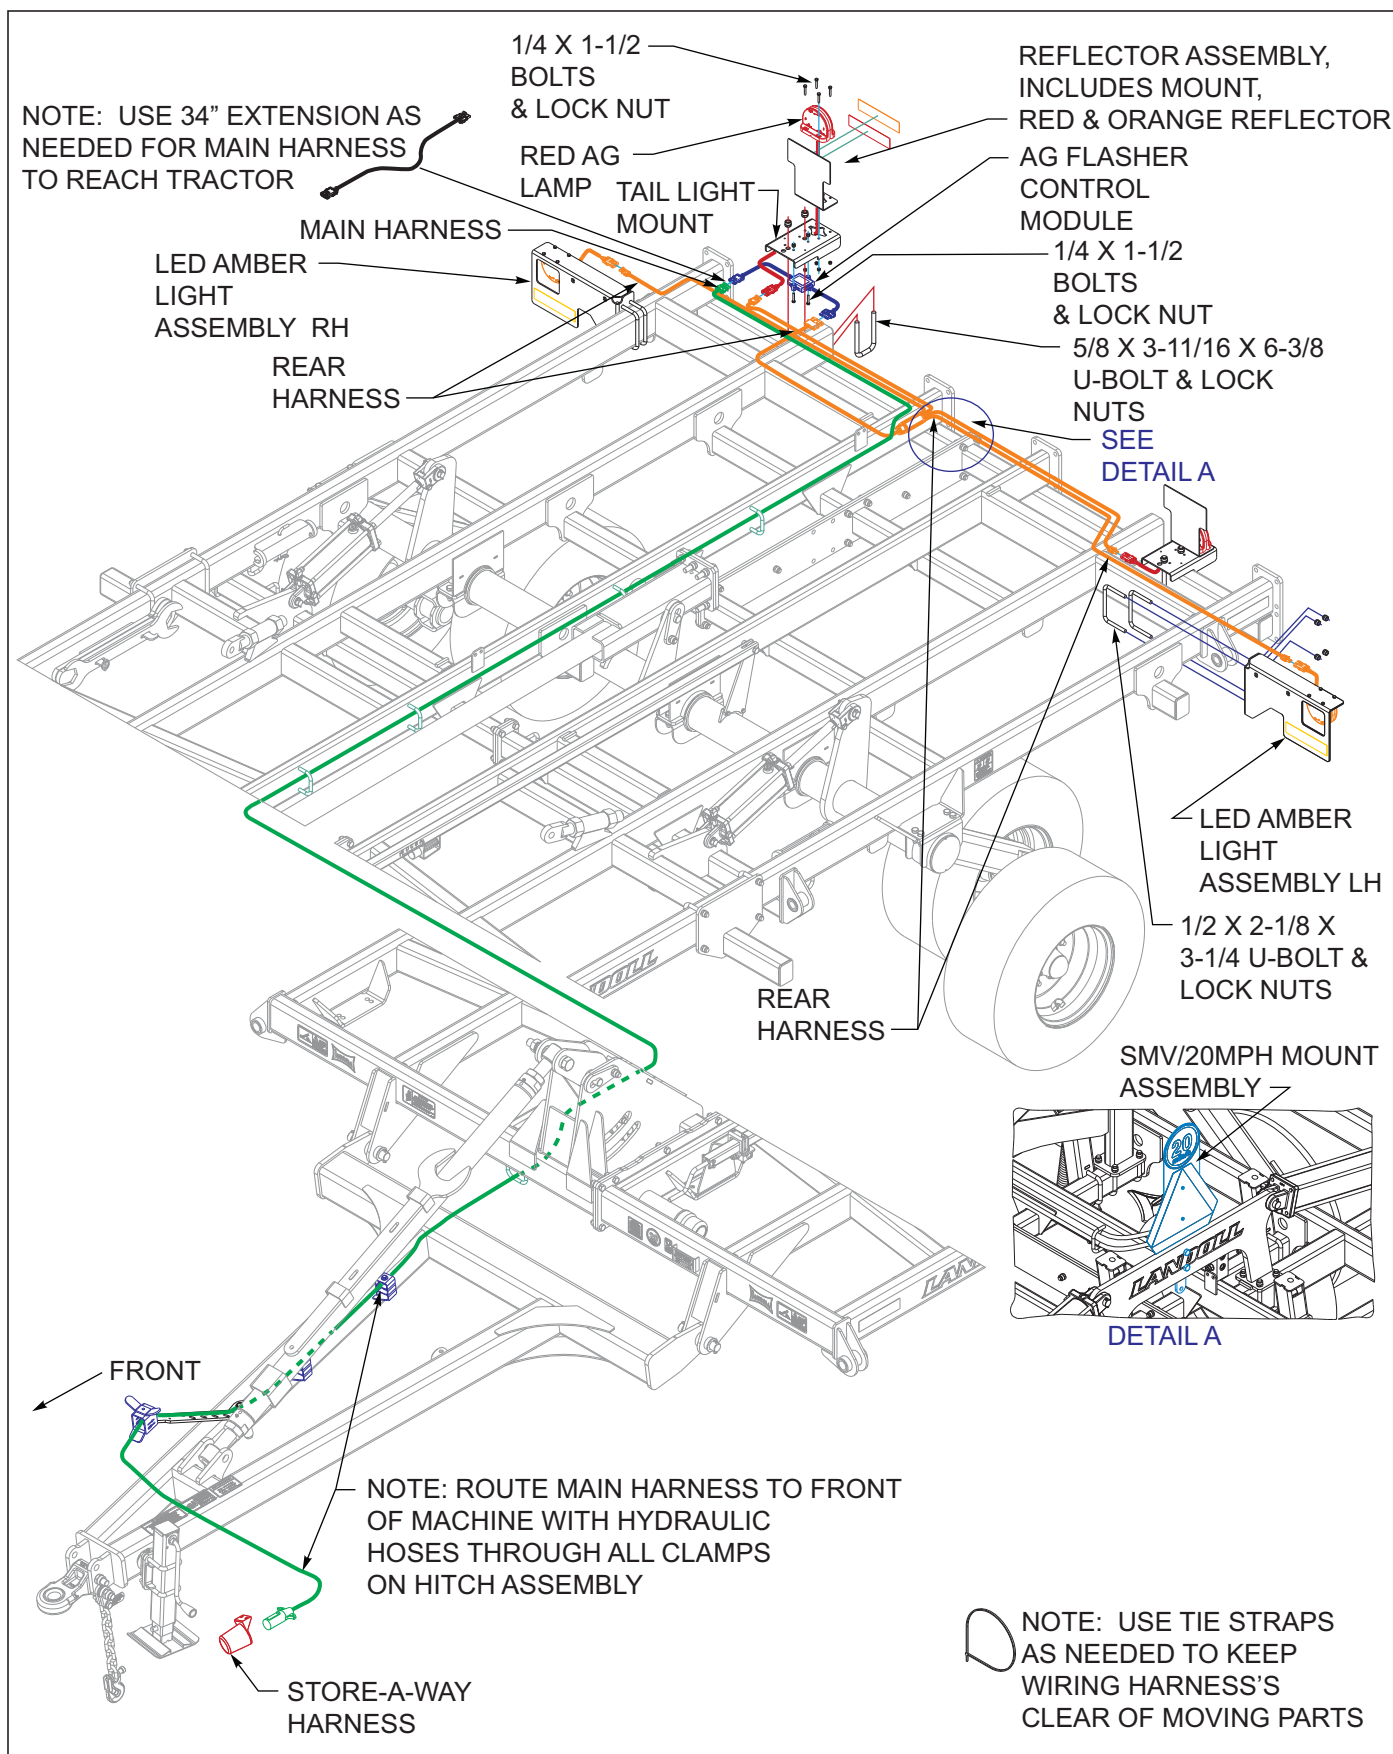
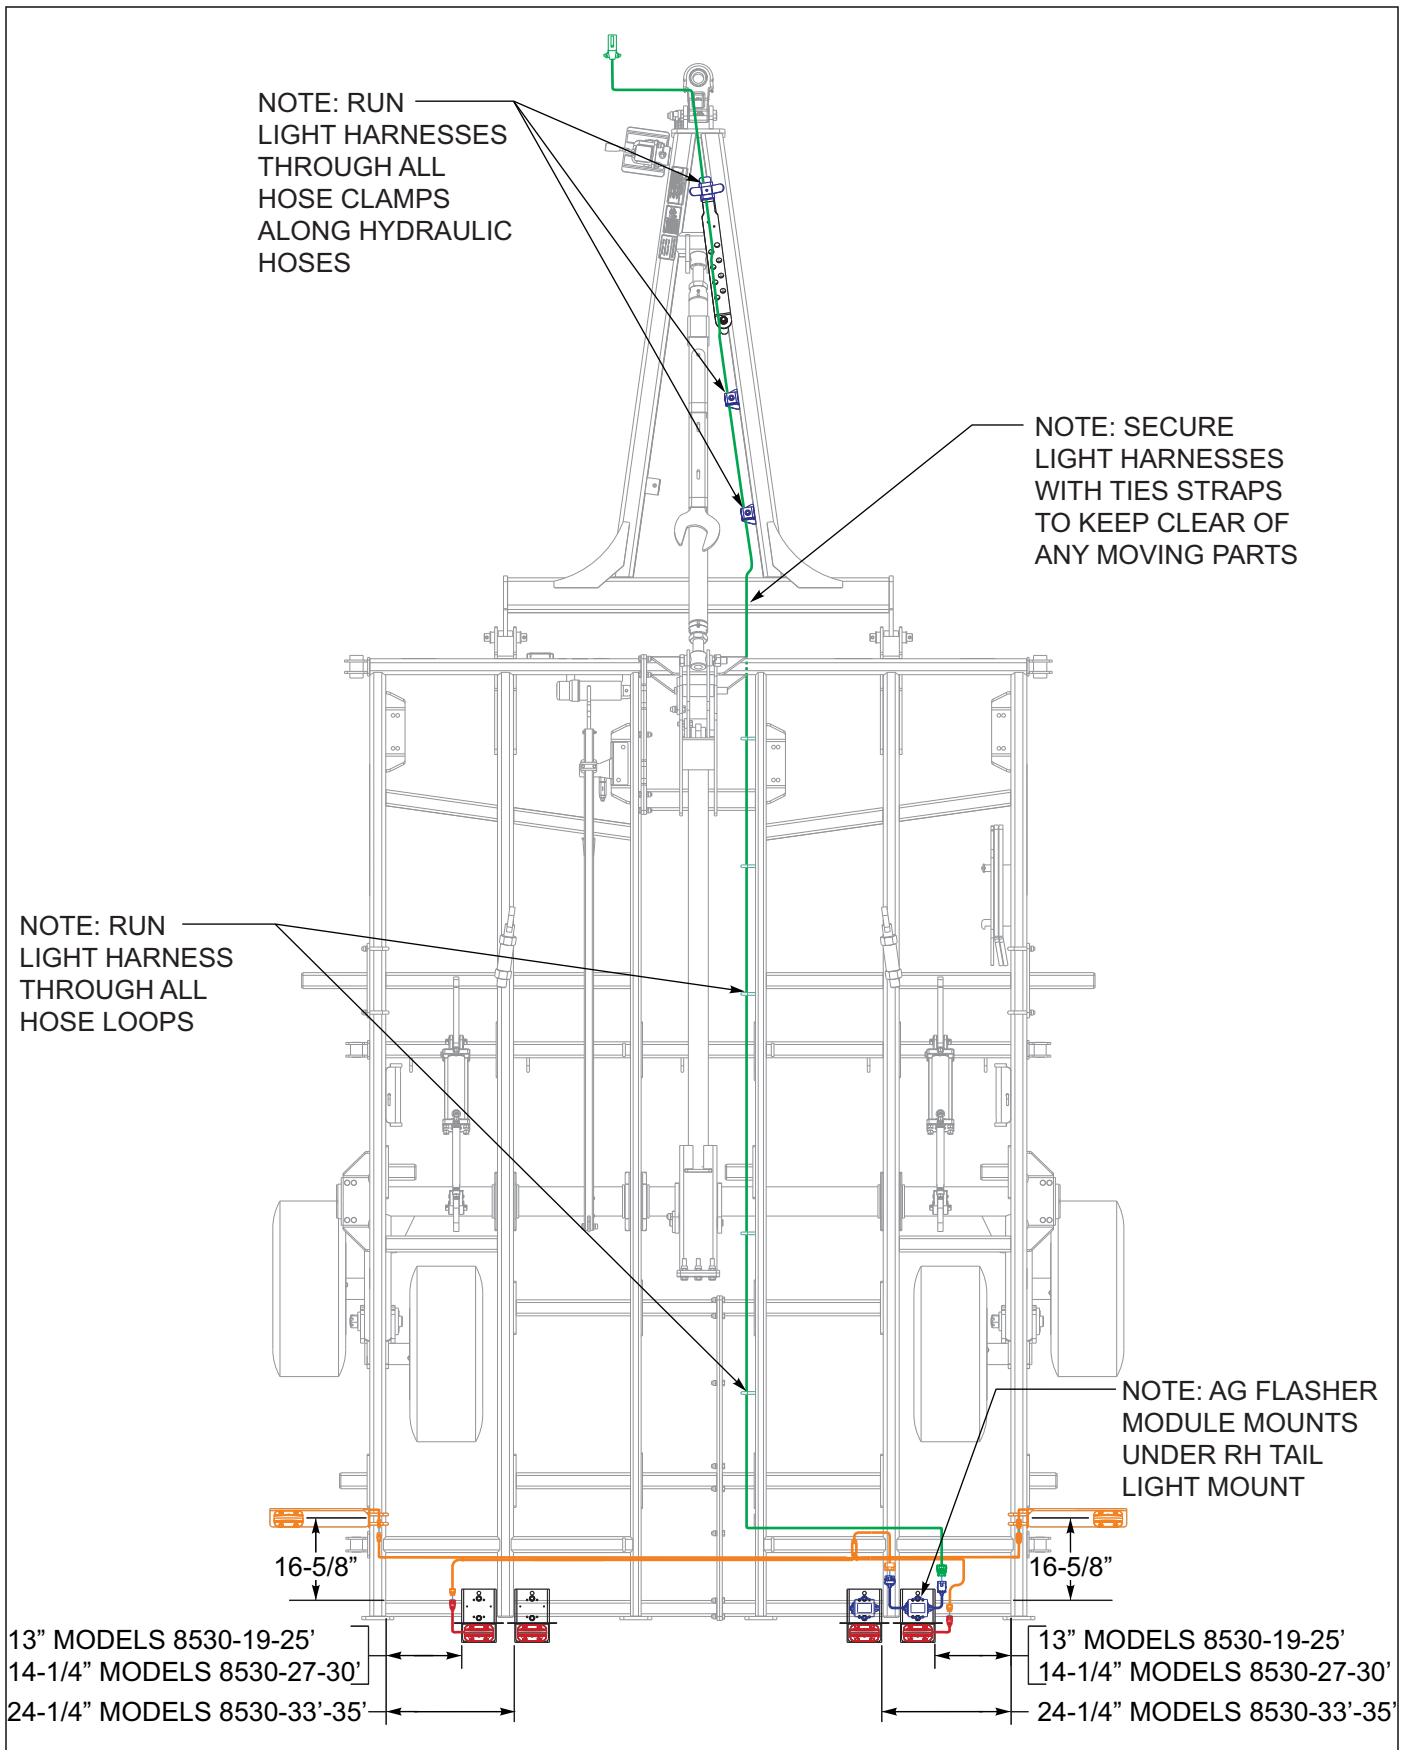

Figure 3-59: LED Light Installation
Figure 3-60: LED Light Layout
1. Attach LH and RH amber light bracket assemblies to center frame using 1/2 x 2-1/8 x 3-1/4 u-bolt and lock nuts **See Figure 3-59** and **See Figure 3-60** for light bracket placement location.
8. Insure that the harnesses are clear of any moving parts and secure the harnesses with tie straps provided. **See Figure 3-60** for light harness routing.